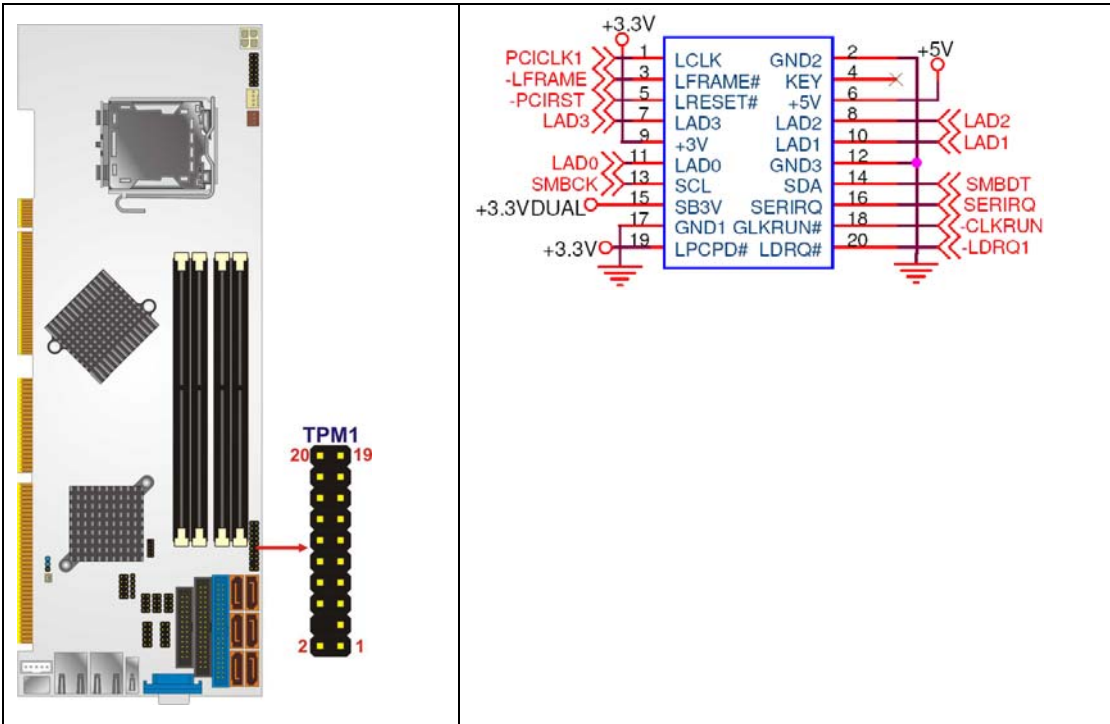

Figure 4-14: TPM Connector Location
- CN Location:** See Figure 4-14